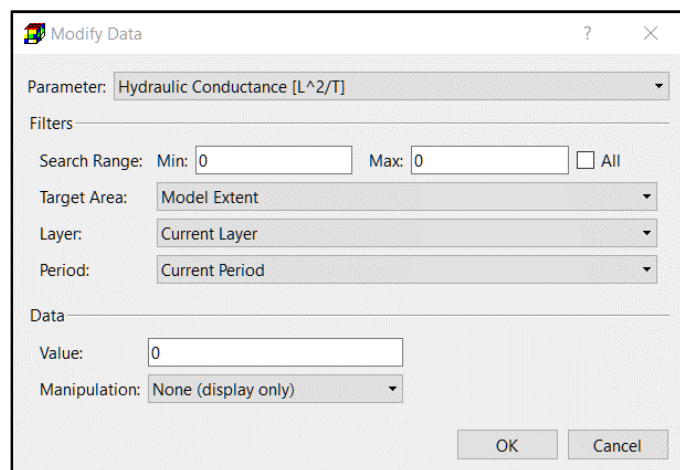

Figure 45. The Modify Data dialog box
4. **Tools > Data > Modify:** Open the Modify Data dialog box (Figure 45) that allows you to modify cell values.